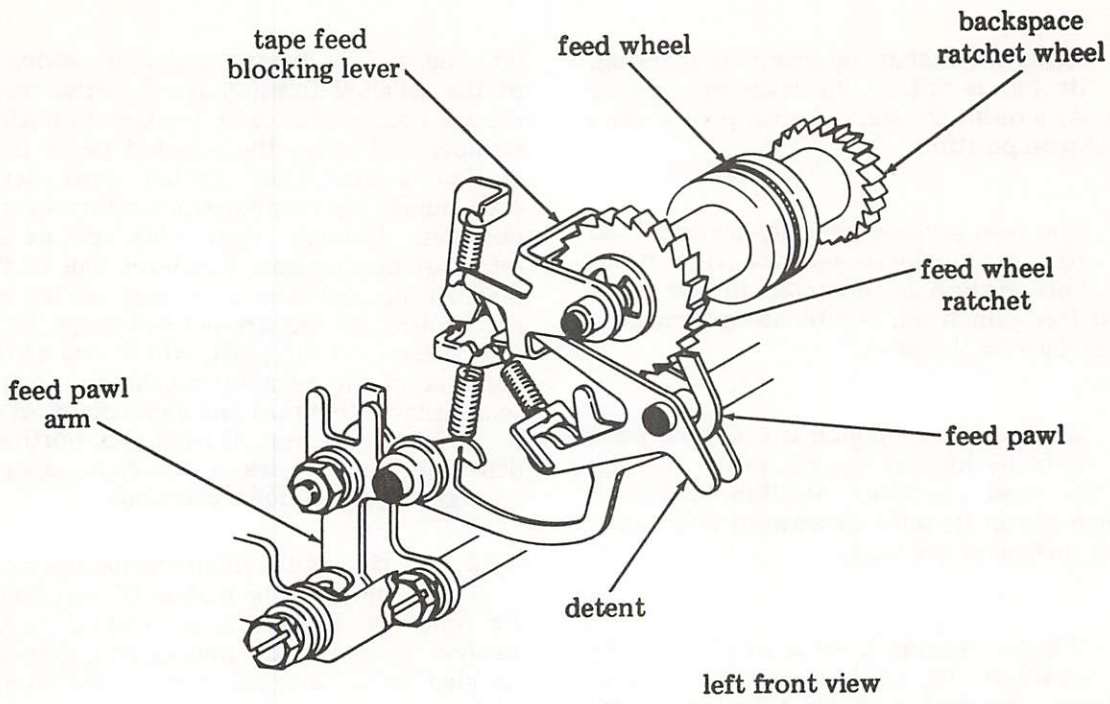

Figure 5 - Tape Feed Mechanism
3.15 As the stripper bail moves to the rear, the feed pawl engages a tooth on the feed wheel ratchet (Figure 5). When the stripper bail completes its travel to the rear, the feed wheel ratchet has indexed one full tooth and the tape is advanced 0.100 inch by the feed wheel.